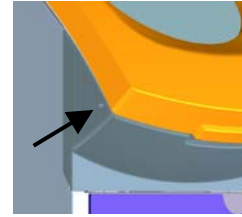

Fig. 61
- Then insert the attached hexagonal key into the hole from the left side below the lid of the rotary chamber (fig. 61).